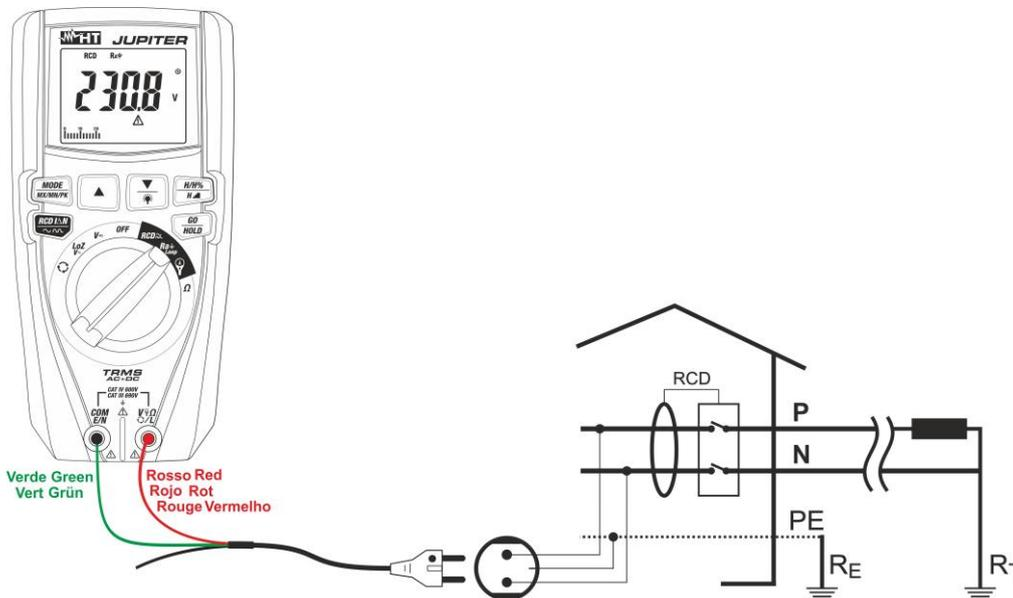

Fig. 17: Use of the instrument for measuring overall earth resistance with Schuko cable.
5. In case the cable with Shuko plug is used, insert the red conductor into input terminal **V Ω L** and the green conductor into input terminal **COM/E/N** and connect the instrument to the system to be tested (see Fig. 17). The value of voltage Phase-Earth is shown on the display